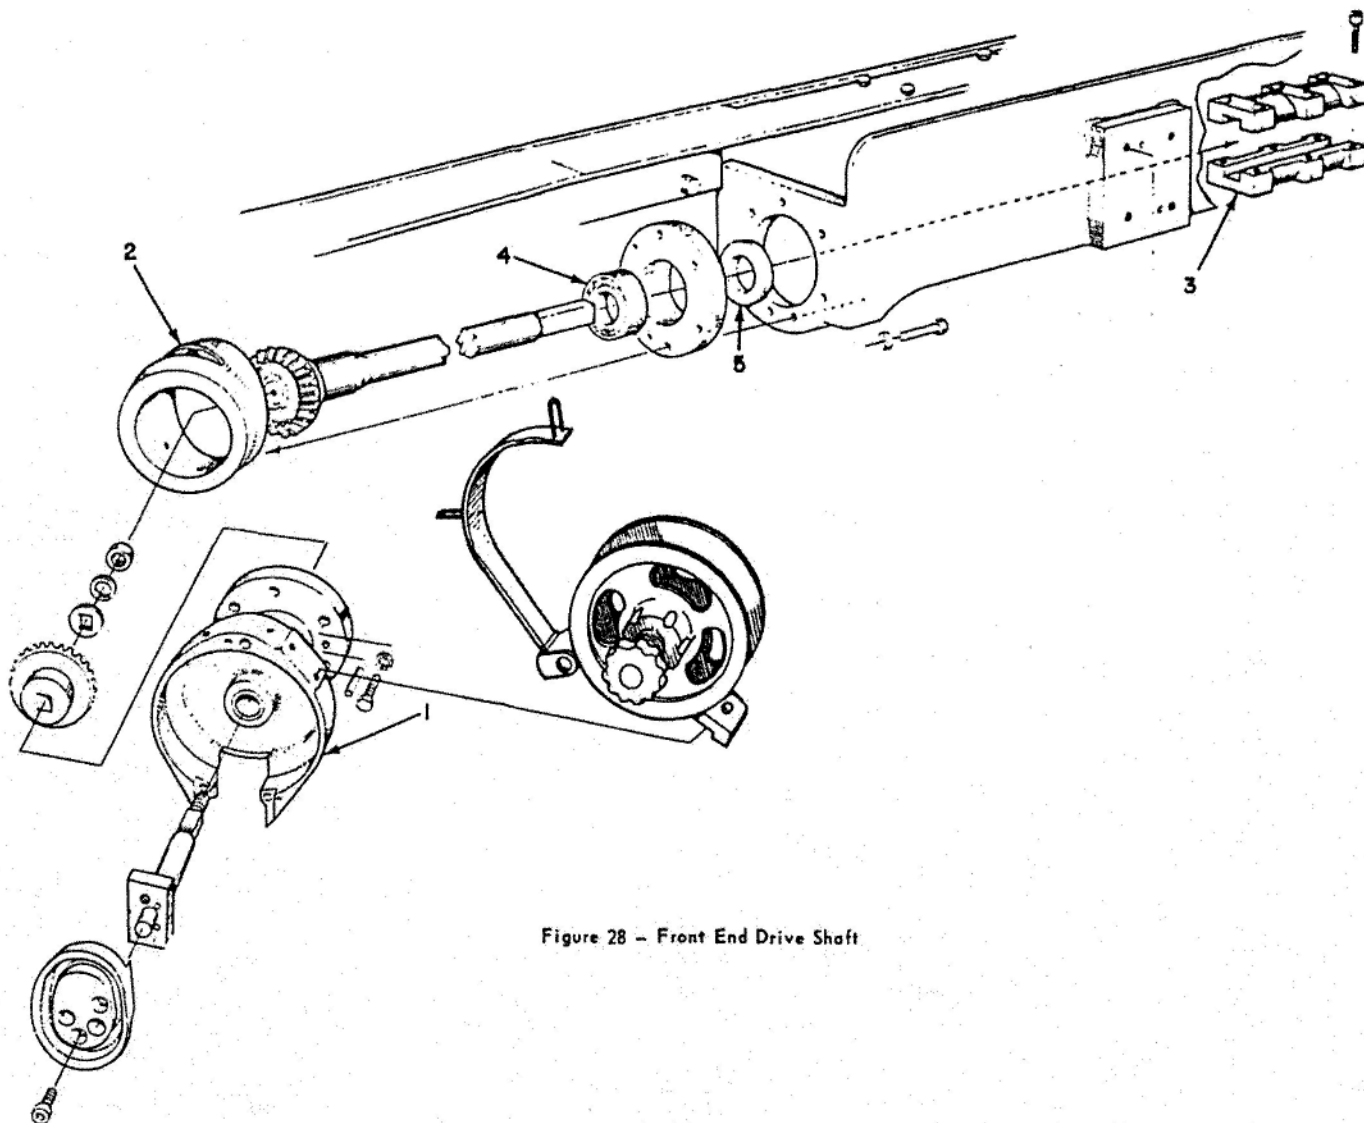

Figure 28 - Front End Drive Shaft
3. Before removing part (1), Figure 28, BE CAREFUL TO CATCH THE OIL, which is in the angle gear housing, in a container. BE SURE THAT OIL IS PUT BACK INTO ANGLE GEAR HOUSING WHEN PARTS ARE ASSEMBLED.
4. Remove head casing (1), Figure 28.
5. Remove angle gear housing (2). It will probably be necessary to use a thin chisel, screwdriver or like tool to break this housing loose at the joint. Pull this housing directly off the dowel pins. Check for possible shim or gasket and be sure to replace when reassembling.
6. Loosen main shaft coupling (3).
8. To reassemble, insert main shaft and bevel gear through bearing (4) and oil seal (5) into coupling regardless of the position of the square on the end of the shaft or the teeth on the gear.
1. Loosen the screws in coupling (3) Figure 28.
5. Mark the shaft in a suitable manner so that on reassembly, the square end of the shaft will be located in the same relationship to the square hole in the coupling (3), Figure 28, as it was before removal. This is necessary to maintain correct timing between the stitching head and the feed connecting rod.